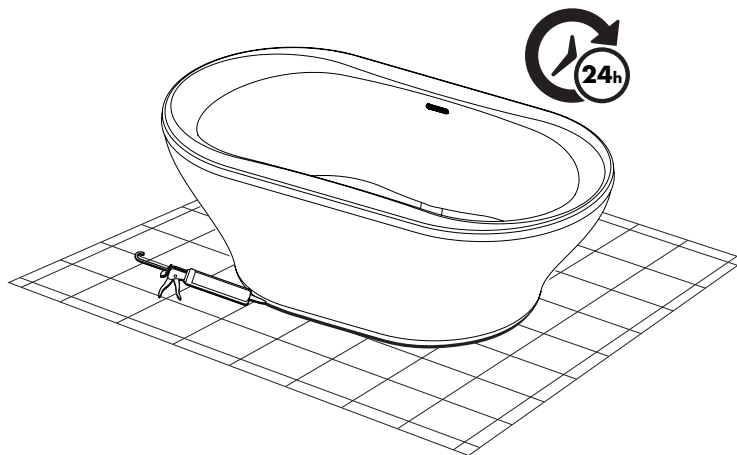

Figure 4
7. Carefully set the tub into its final position and connect drain to p-trap/stub-up as directed by the instructions in your drain assembly kit. Fill the bath above the overflow and check for leaks. Apply a bead of silicone around the bottom edge of the tub where it meets the floor. Remove any excess. Allow 24 hours to cure. (See Figure 4)
15. Once the unit is leak-free. Apply a bead of silicone around the bottom edge of the tub where it meets the floor. Remove any excess. Allow 24 hours to cure. (See Figure 4 on page 8)